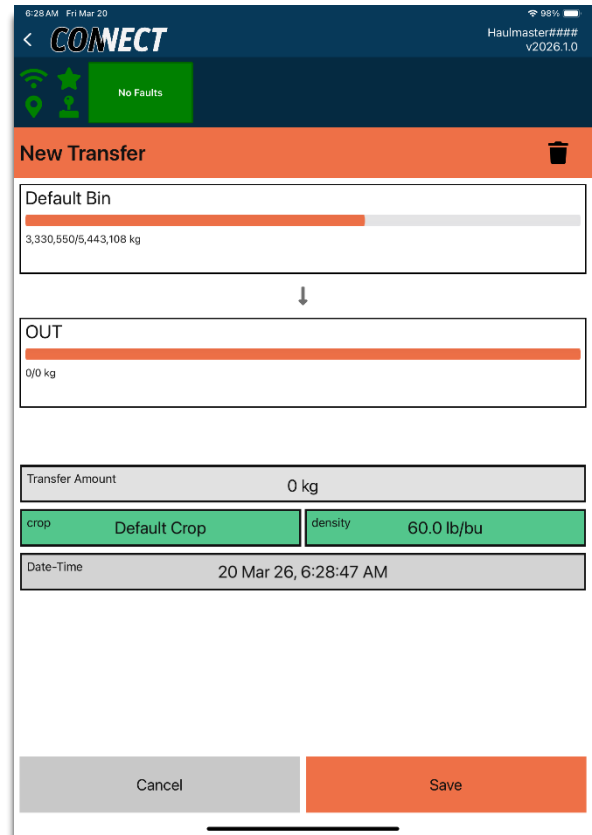

Figure 157 Transfer Summary
9. Back at the **New Transfer** screen, shown in Figure 157, press the **Transfer Amount** button to enter the amount to transfer.